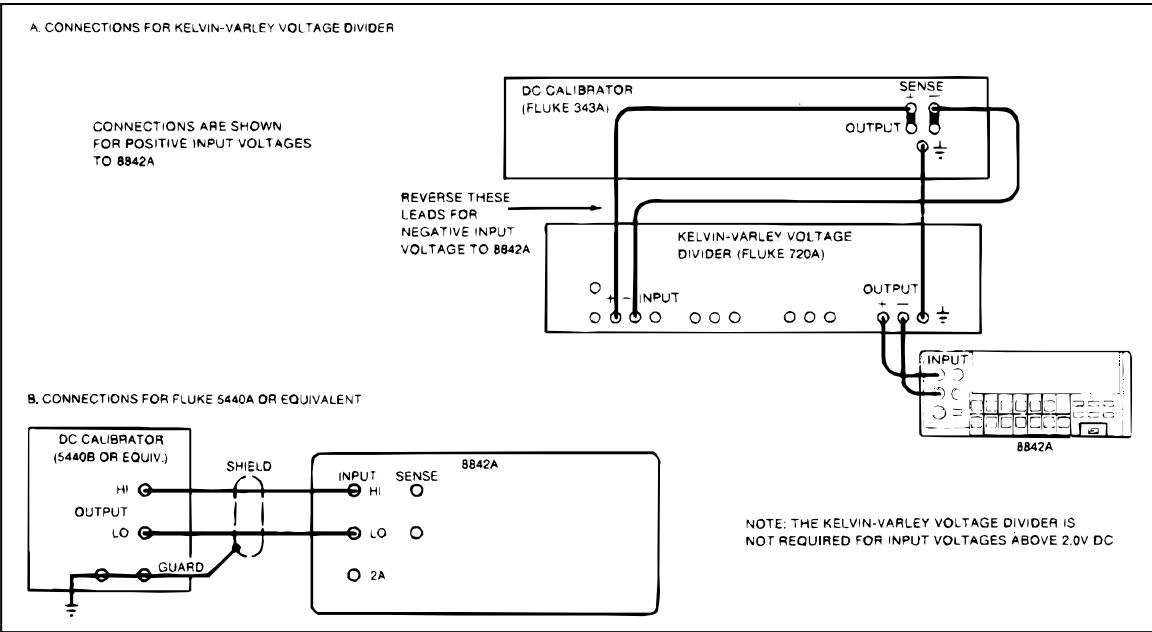

Figure 6-1. DC Calibration Connections
3. Connect the DC Calibrator (see Table 6-1) to provide a voltage input to the HI and LO INPUT terminals. Connections for the Kelvin-Varley Voltage Divider and the Fluke 5440A are shown in Figure 6-1.